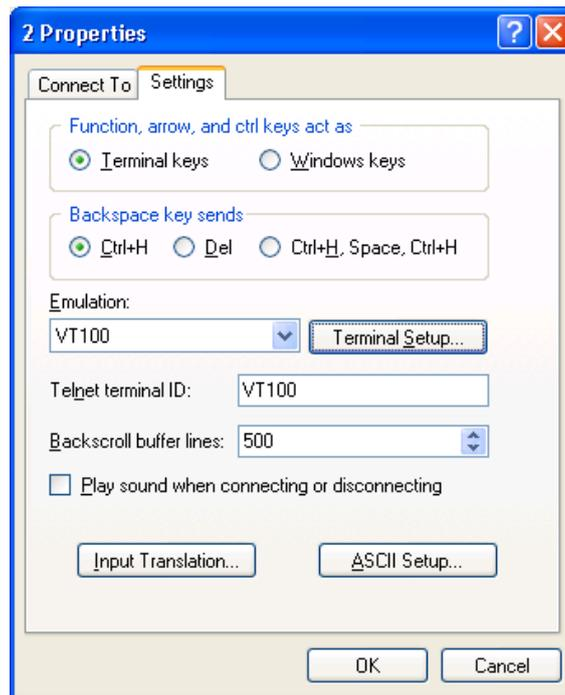

FIGURE 4-6 THE SETTING OF THE TERMINAL EMULATION
Step 5: In the HyperTerminal attribute dialog box, select **Property** to enter the property window. Click **Setting** in the property window to enter the window of setting the property as shown in Figure 4-6. Select the terminal emulation as VT100 and then click **OK**.